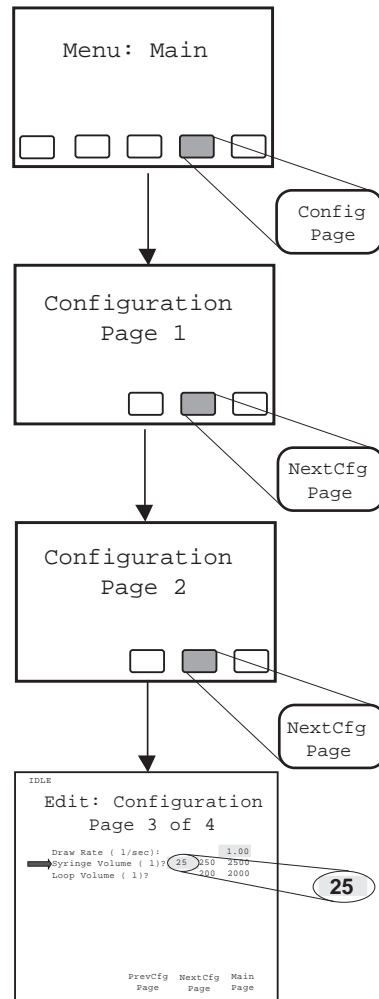

Figure 5-5 Changing Syringe Volume
1. Access Configuration Page 3 by pressing the keys indicated in Figure 5-5.